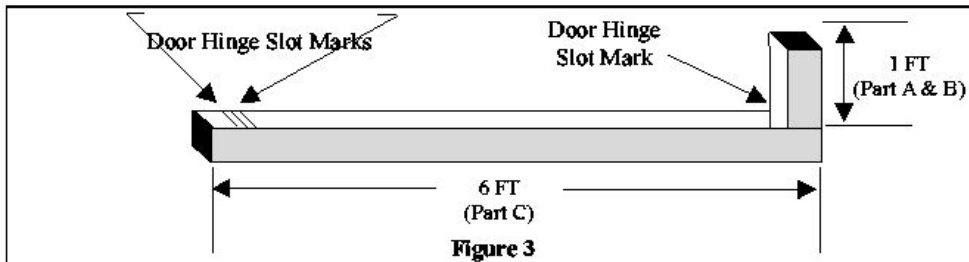

Figure 3
- 6) Cut slots between pencil marks on Part C (see Figure 3), the minimum depth should be at least half the diameter of the hinge pin head measured in STEP 4.